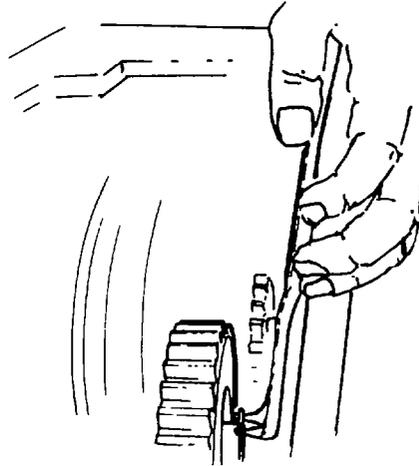

Fig. 204 — Installing PTO Gear
- n. Install the power-take-off (PTO) gear onto the countershaft splines then install the front snap ring in the groove in the countershaft (see fig. 204).